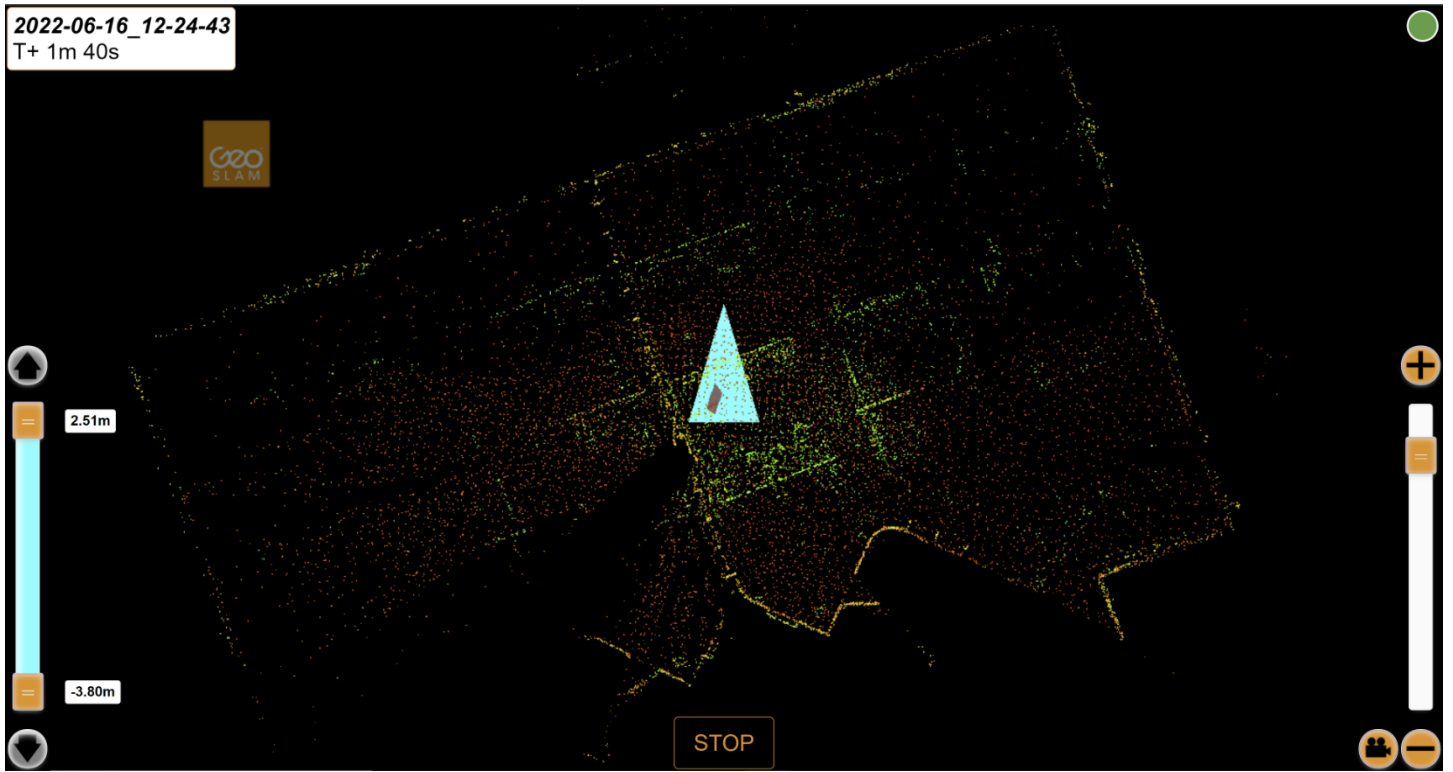

Figure 8-5
Step 7: When the initialisation screen closes the scan head will start rotating and commence the survey. A 3D representation of the scan can be seen in the graphic screen (Figure 8-5).